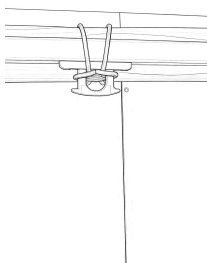
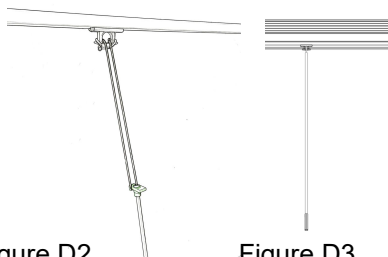

Figure D2
Figure D3
4.2 After fully opening the awning, release the elastic cord buckle on the side pull sunshade curtain handle, pull open the side pull sunshade curtain, and secure it to the ground with ground pegs. (Figure D2) , When the height is excessive, disengage the elastic catch on the side awning handle and use a pull rod to pull the awning down. (Figure D3)